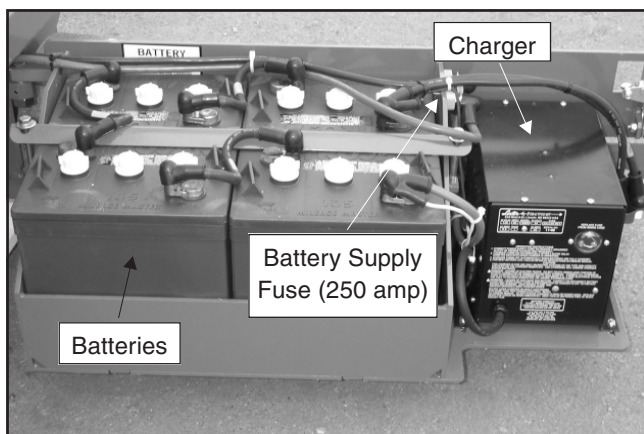

Figure 8.1—Battery Tray
- Check battery supply fuse (figure 8.1)